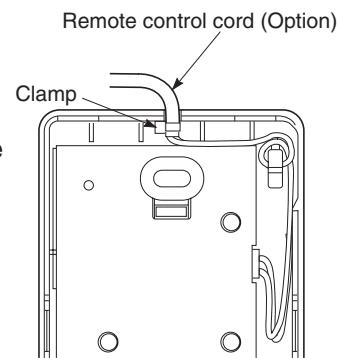

Fig. 1-101
- After arranging the wiring on the printed circuit board as shown in Fig. 1-101 so that it is contained within the signal receiving unit, attach the back case. At this time, arrange so that the head of the clamp faces the side.